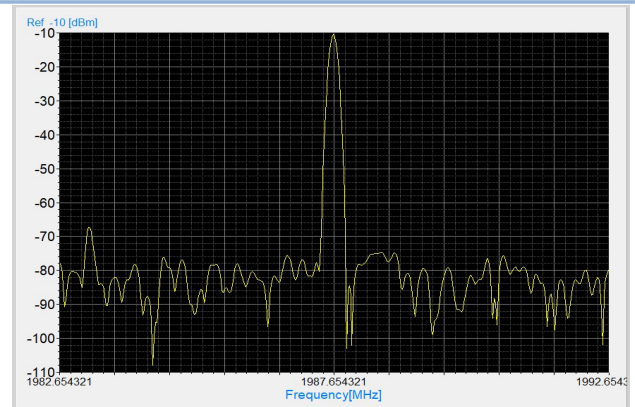

Fig.11 FM signal freq=1987.654321MHz, SPAN=10MHz
2. Open the **Frequency** menu and enter the desired measurement frequency. For example, if the input signal is a **MOD 20 kHz FM (1 kHz deviation)** at **-10 dBm**, set the frequency to **1987.654321 MHz**. Keep SPAN at **10 MHz**, and adjust the amplitude to **-10 dBm** (see Fig. 11).